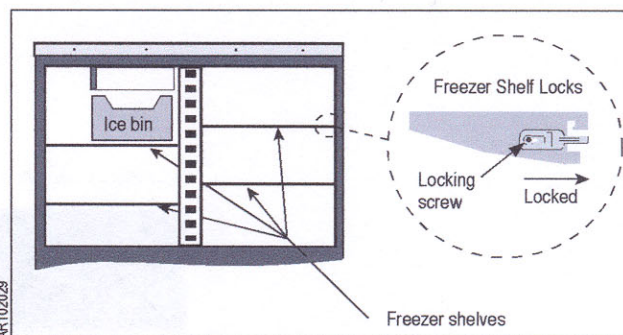

Figure 4. Shelves and Shelf Locks
- Use a medium size Phillips screwdriver to loosen the freezer shelf locks. Refer to Figure 4.
2. Reinstall the freezer shelves and use the Phillips screwdriver to fasten their locks in place. Refer to Figure 4.